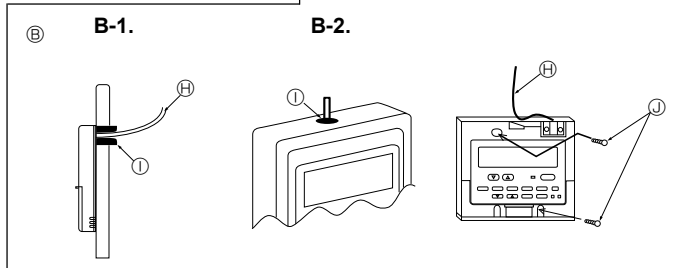

Fig. 6-3
(2) Seal the service entrance for the remote controller cord with putty to prevent possible invasion of dew drops, water, cockroaches or worms. (Fig. 6-3)
[Fig.6-3]